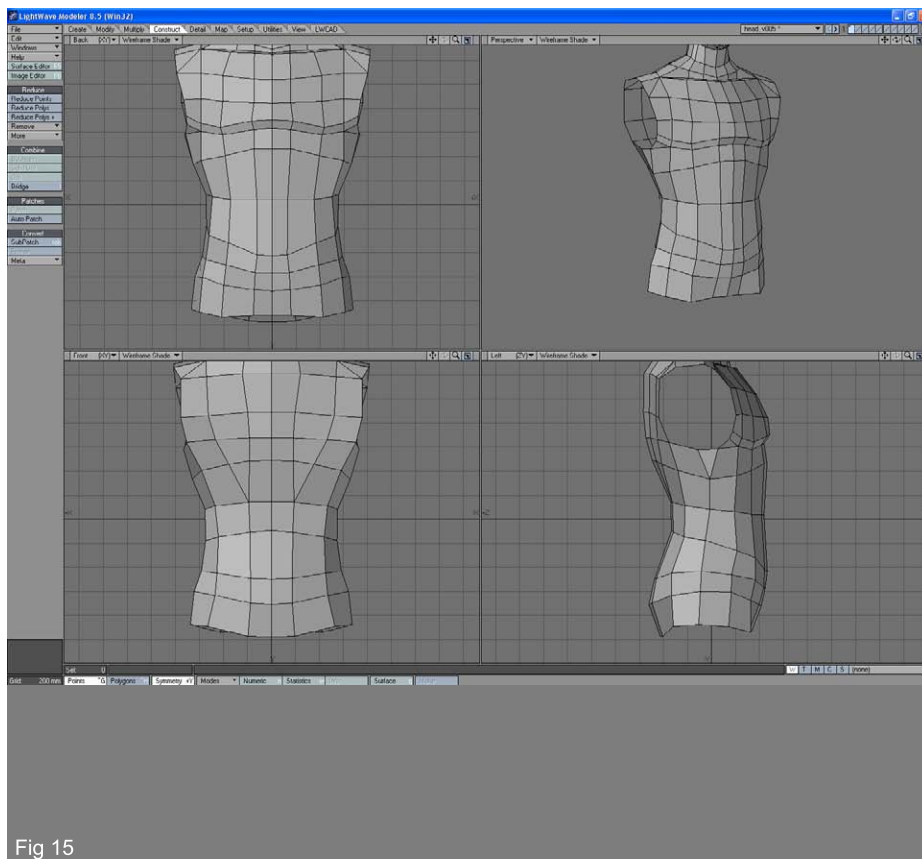

Fig 15
15. Now use the Drag tool and adjust the points to form the lower torso and the top part of the buttocks. Probably the easiest way to do this is to use the same way it's done when we shaped the head. First adjust points in the front view and then in the side view. If you have troubles selecting the front points without selecting the back one, simply switch the front (or back) view from Wireframe to Wireframe shade, and you'll be able to select only the visible points without accidentally selecting unwanted points (Fig15).